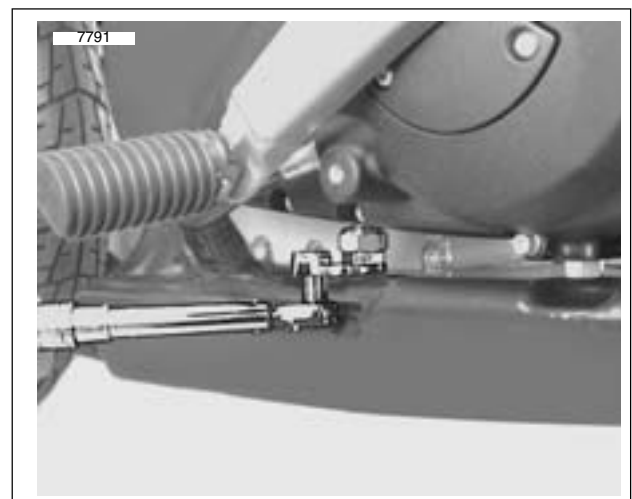

Figure 6-6. Torquing Chain Limiting Screw
2. See Figure 6-6. Tighten chain limiting screw to 24 in-lbs.